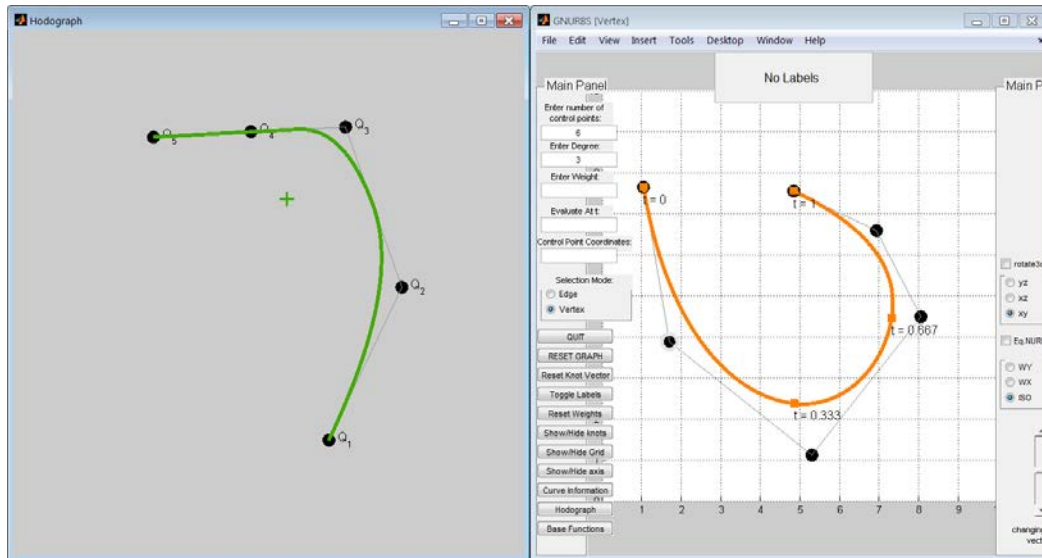

Figure 13: The hodograph of a NURBS curve.
The user can also see the Hodograph of a curve by clicking button (16) from the left panel as shown in Figure 13.